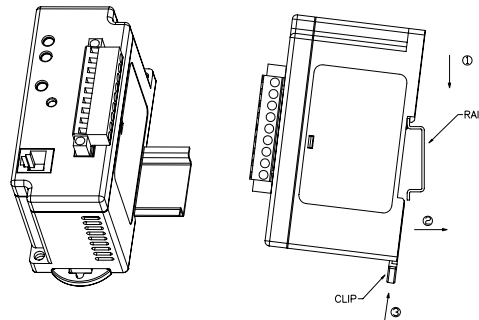

Figure 2
1. Please refer to Figure 2 above to mount LN-01 onto Din Rail.